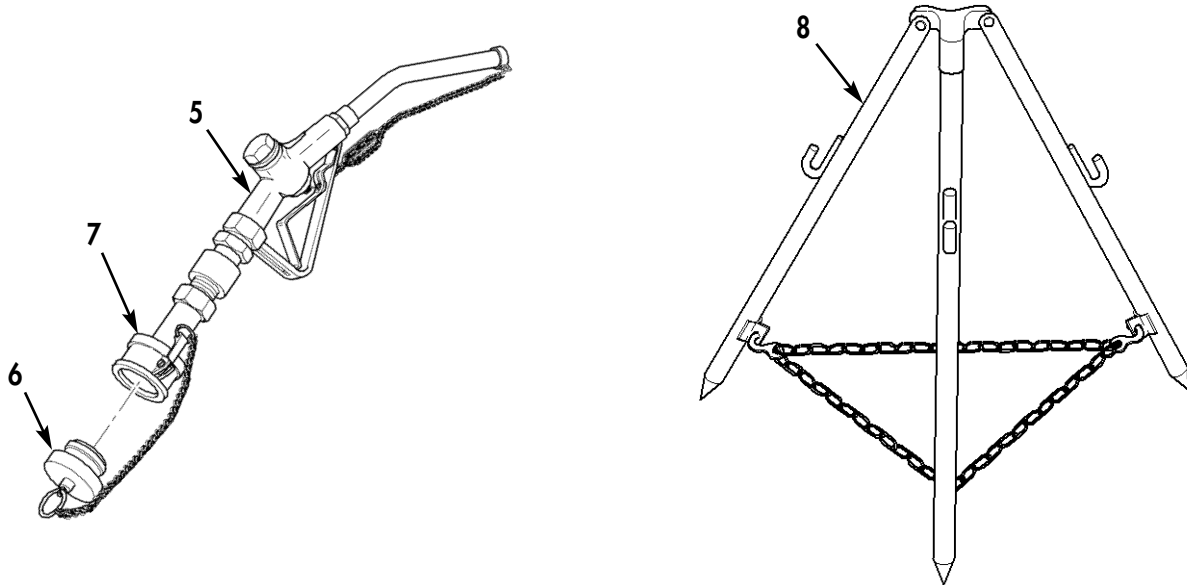

Figure 6. Nozzle and Stand.
14. Install plug (Figure 6, Item 6) on each nozzle coupling (Figure 6, Item 7), and remove four nozzle assemblies (Figure 6, Item 5) from two nozzle stands (Figure 6, Item 8).
15. Fold two nozzle stand assemblies (Figure 6, Item 3). Refer to WP 0004.